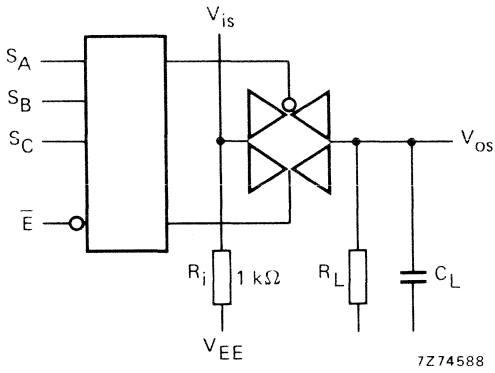

Fig. 2
- $R_L = 10 \text{ k}\Omega$  to  $V_{EE}$ ;  $C_L = 50 \text{ pF}$  to  $V_{EE}$ ;  $\bar{E}$  at  $V_{SS}$ ;  $V_{is}$  is  $V_{DD}$  (square-wave); see Fig. 2.
- $R_L = 10 \text{ k}\Omega$  to  $V_{EE}$ ;  $C_L = 50 \text{ pF}$  to  $V_{EE}$ ;  $\bar{E}$  at  $V_{SS}$ ;  $S_n$  is  $V_{DD}$  (square-wave);  $V_{is} = V_{DD}$  or  $V_{EE}$ ; see Fig. 2.
- $R_L = 10 \text{ k}\Omega$ ;  $C_L = 50 \text{ pF}$  to  $V_{EE}$ ;  $\bar{E}$  is  $V_{DD}$  (square-wave);  $V_{is}$  at  $V_{DD}$  and  $R_L$  at  $V_{EE}$  for  $t_{PHZ}$  and  $t_{PZH}$ ;  $V_{is}$  at  $V_{EE}$  and  $R_L$  at  $V_{DD}$  for  $t_{PLZ}$  and  $t_{PZL}$ ; see Fig. 2.
- $R_L = 10 \text{ k}\Omega$  to  $V_{EE}$ ;  $C_L = 15 \text{ pF}$  to  $V_{EE}$ ;  $\bar{E}$  or  $S_n$  is  $V_{DD}$  (square-wave); crosstalk is  $V_{os}$  (peak value); see Fig. 2.